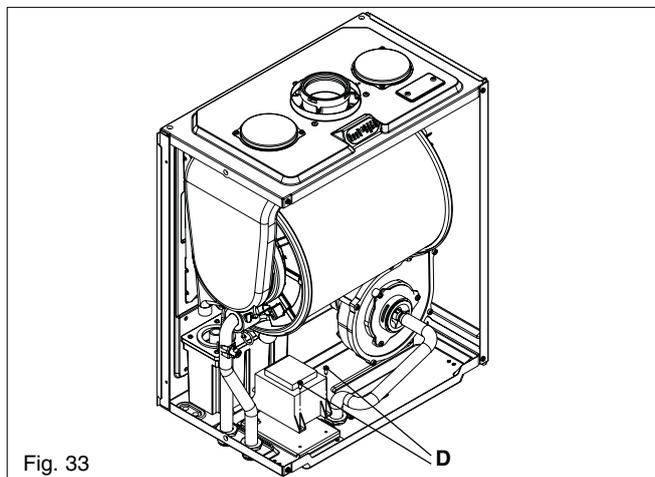

Fig. 33
6.19 FAN TRANSFORMER REMOVAL (fig. 33)